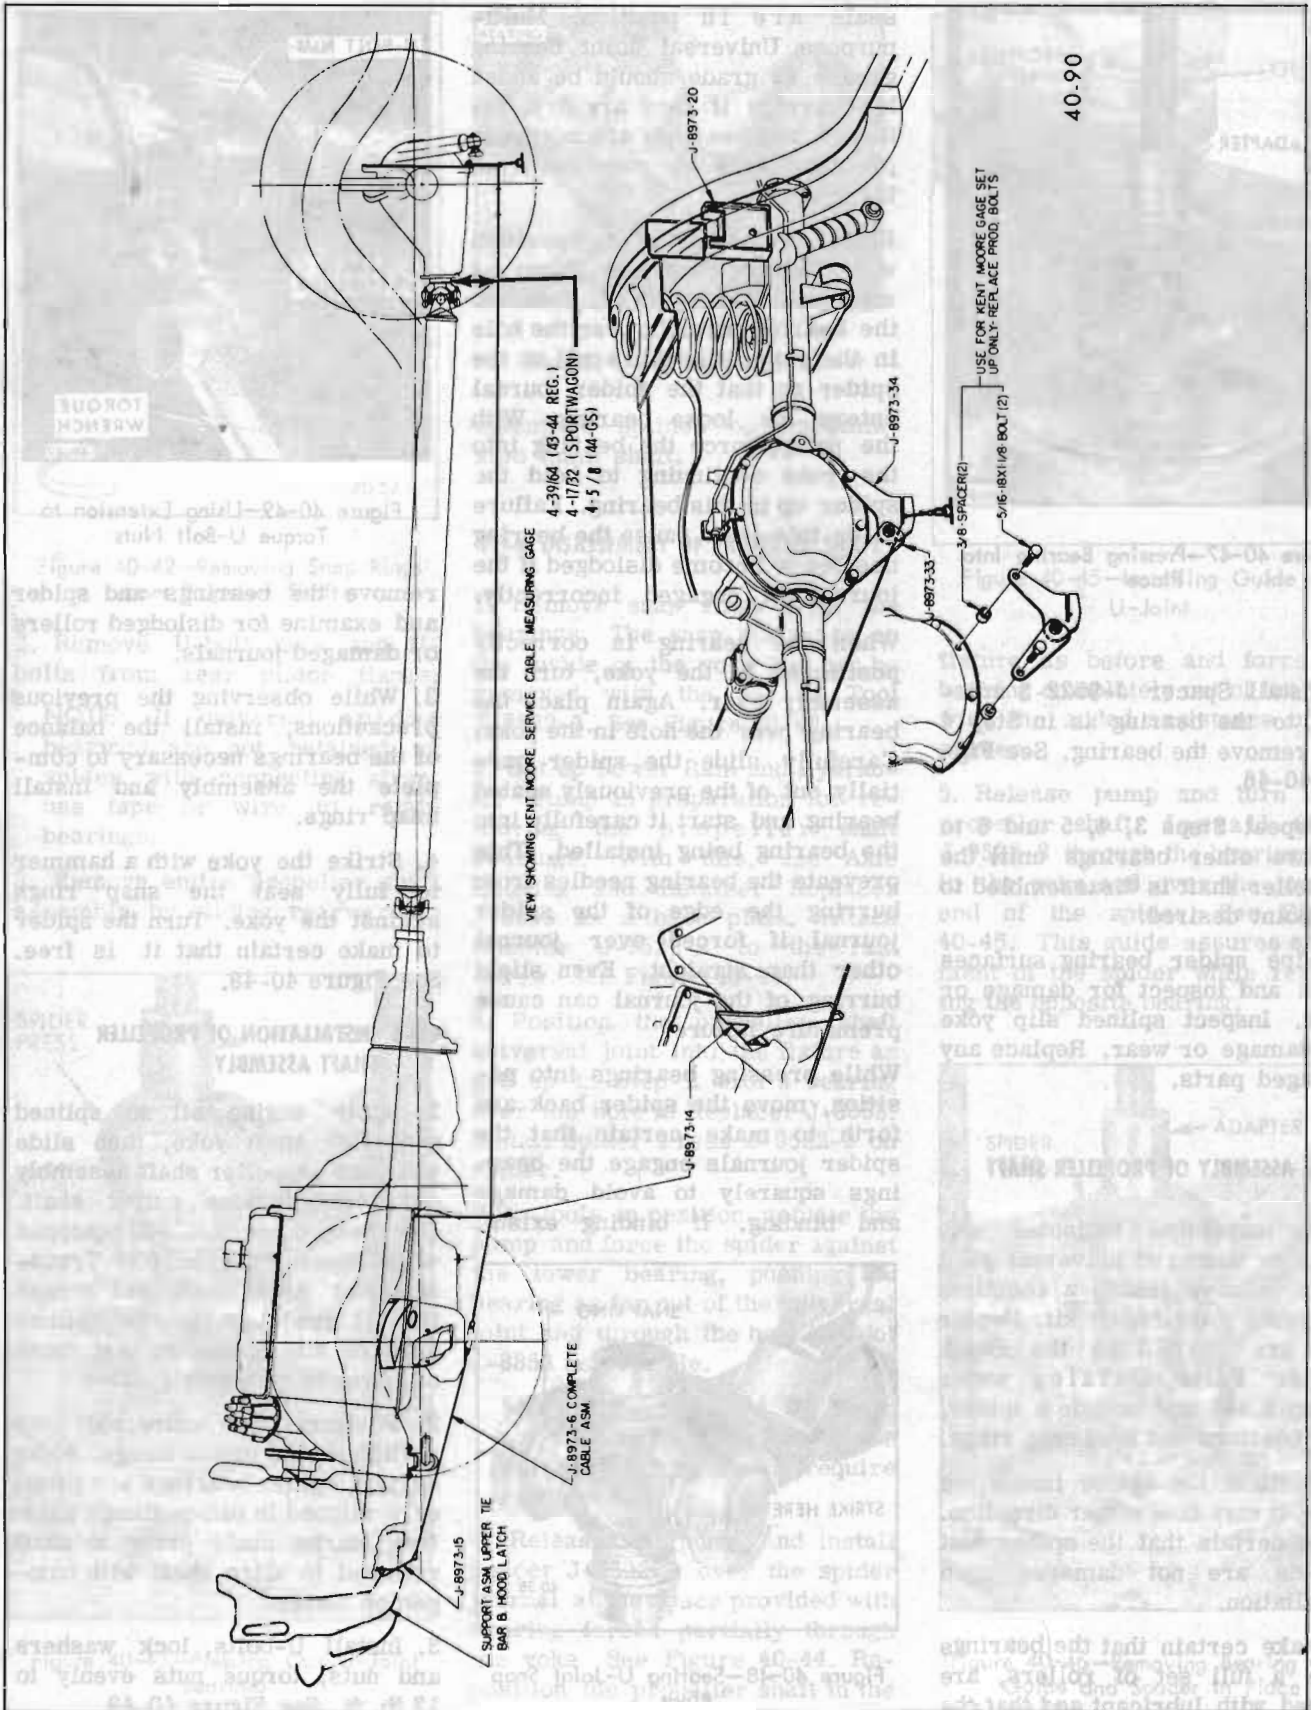

Figure 40-50—Checking Rear Universal Joint Angle
NOTE: Use same blocks for Station Wagons and Sedans. See Figure 40-50.
3. Engage front attaching Bracket J-8973-15 in lower opening of vertical center support assembly located at front of radiator. Hook bracket into bottom of opening. See Figure 40-50.
4. Place Engine Height Plate J-8973-14 so that the upper end bears against the engine oil pan between the two rear oil pan bolts. See Figure 40-50. Place the cable in notch of height plate, pull cable tight and hook into rear bracket so one of the stops on the cable is to the rear of the bracket slot. It is important that the cable is fully in the slot and is taut and free of kinks.
5. Measure perpendicular distance from cable to surface immediately in front of slinger on rear pinion flange. The correct dimension is given in Figure 40-50.